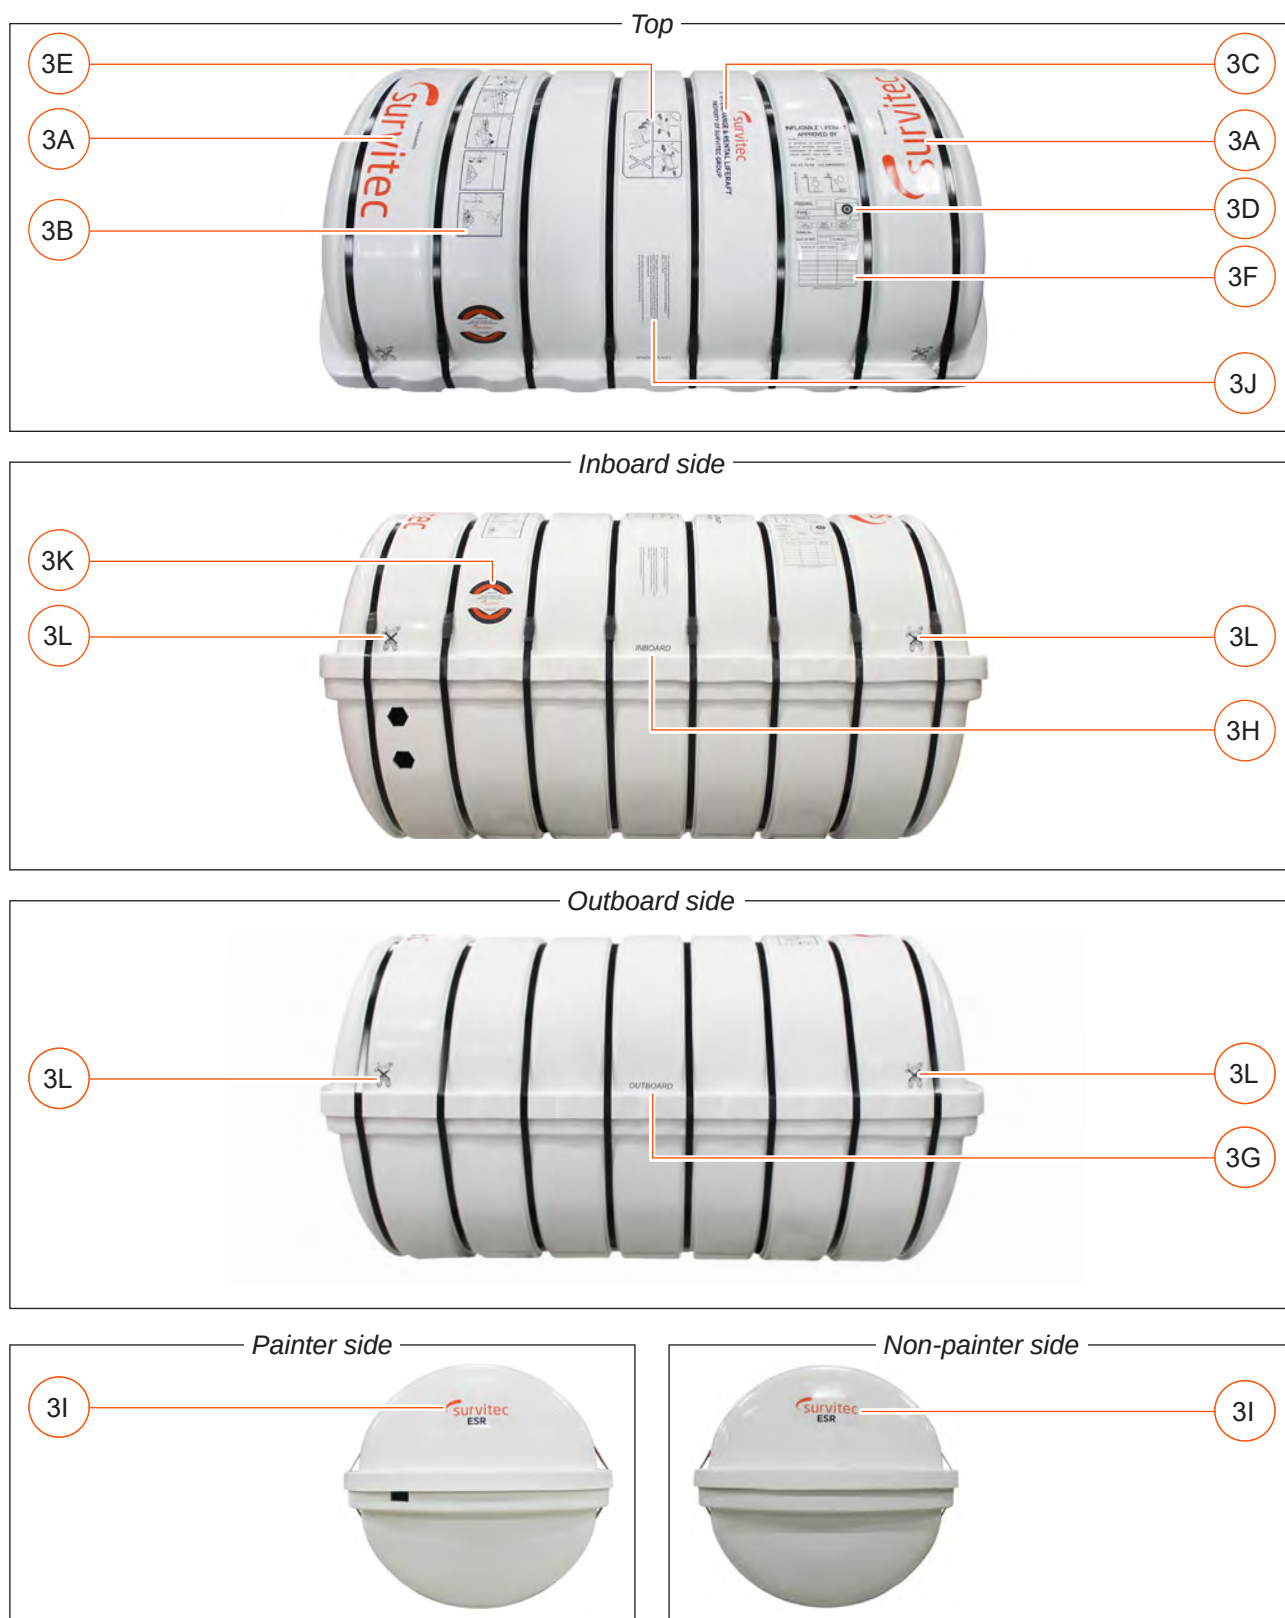

Figure 24
- Mk 14 size 17. Refer to **Figure 24** for label positions.